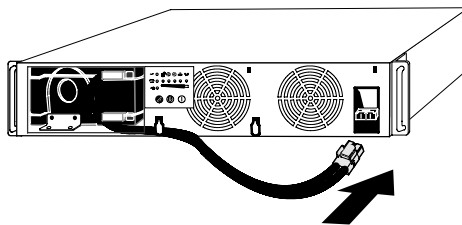

Figure 2. Connecting the Internal Battery Connector
3. Connect the internal battery connector (see Figure 2).